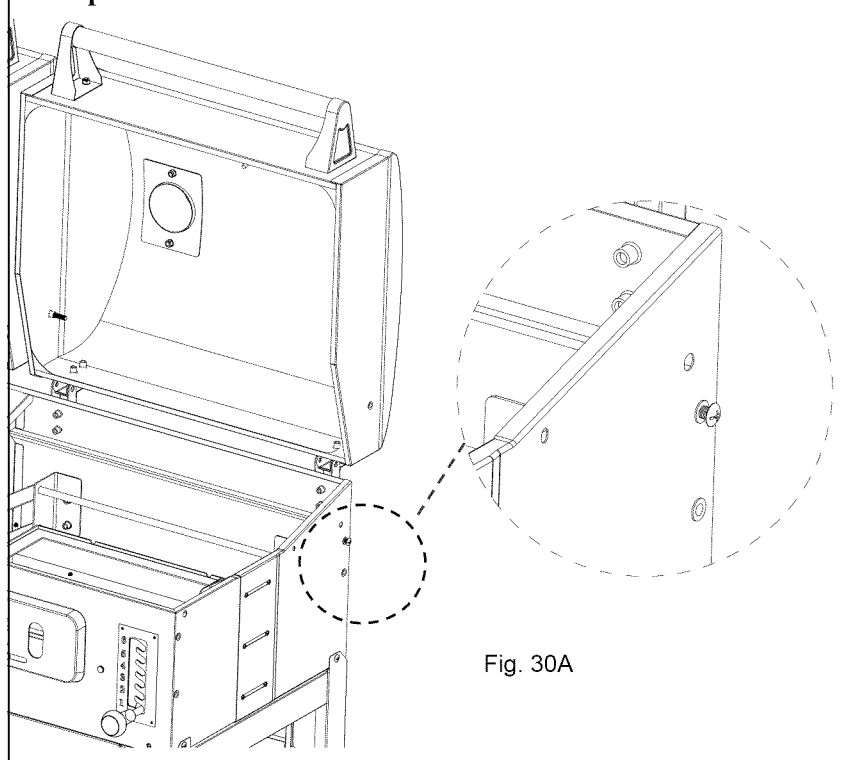

Fig. 30A
*Locate:* Side Shelf, (6) M6x12 bolts
Attach (1) M6x12 bolt to the right of the cabinet as shown as Fig. 30A.